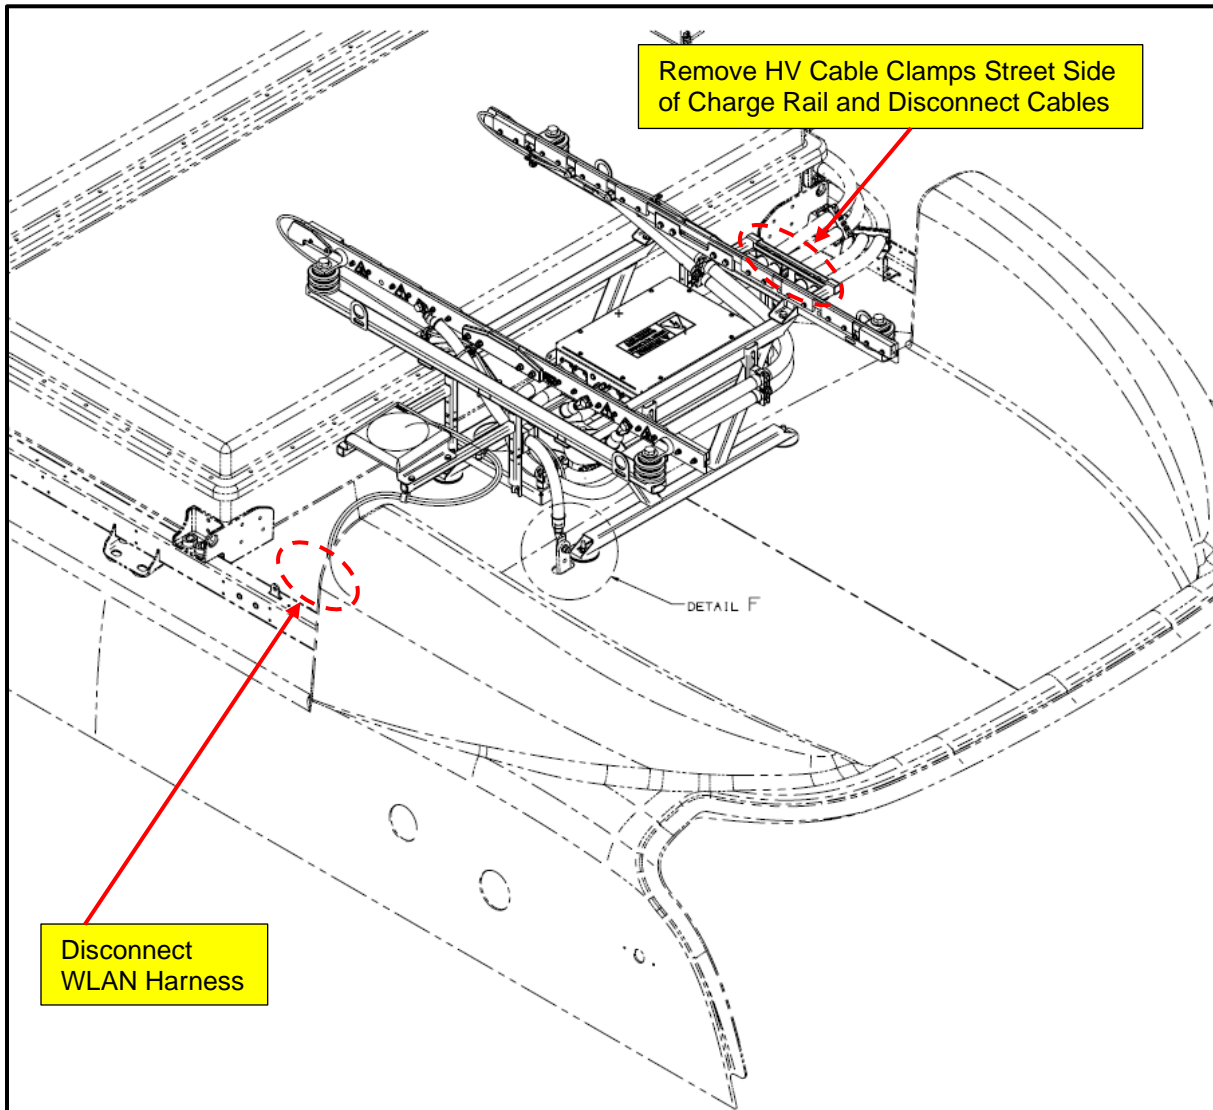

Figure 3A: Charge Rail Removal Location Reference.
8. Remove HV charge rail as required. Move to following page if not required. HV cable clamps from street side of charge rail and disconnect HV cable quick disconnects from charge box. Secure HV cables out of the way for charge rail assembly removal. See Figure 3A.
9. Disconnect WLAN antenna from bus harness. Secure WLAN harness for charge rail assembly removal. See Figure 3A.